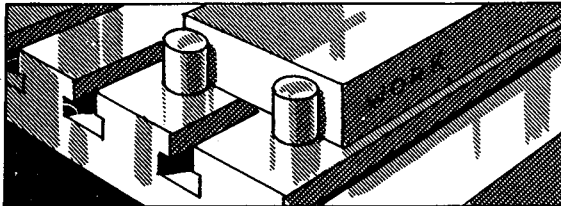

FIG. 175
4. Clean the two stops A, and place them in the round holes located near the front of the table (Fig. 175).